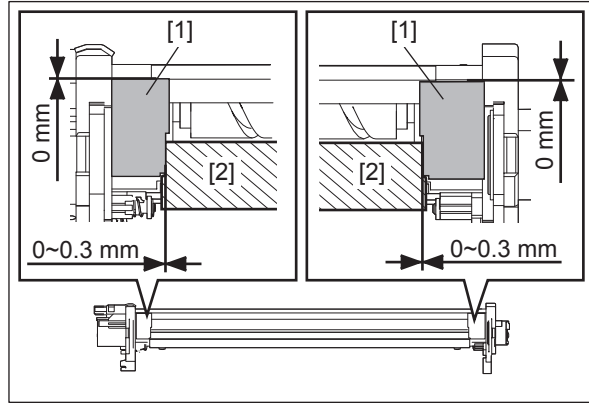
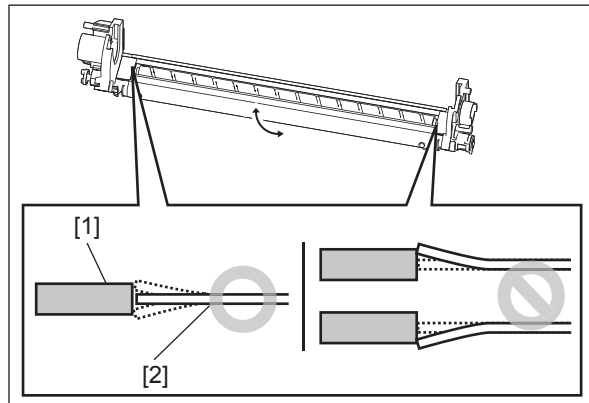

Fig. 4-308
Fig. 4-309
- If not in accordance with P. 4-110"Fig. 4-308" and P. 4-110"Fig. 4-309" of "4.6.5 Blade side seal".